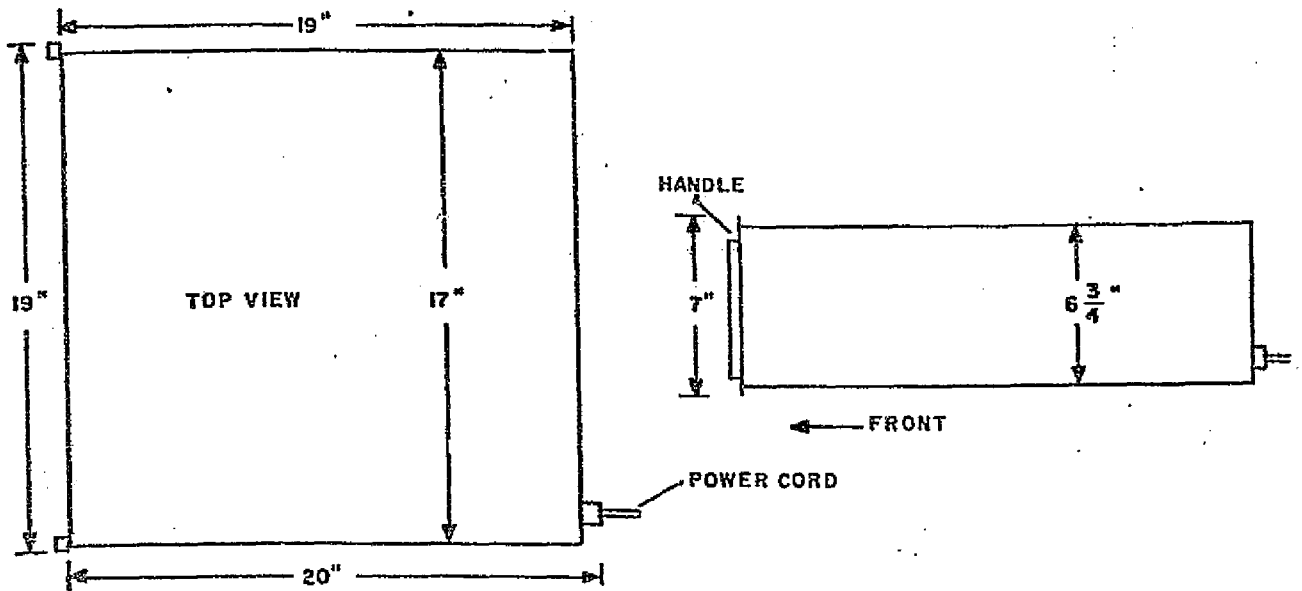

Figure 2-1. Installation Clearance
The CTE Splitter should be installed in a clean, dust-free area. An air-conditioned area with low humidity and moderate temperature is preferred. Refer to Figure 2-1 (Installation Clearance) for diagram.
2.1.2 Installation in Rack (Refer to Figures 2-1, 2-2)
Signal outputs and inputs are made through connectors located on the rear panel of the unit. Sufficient room should be allowed for external connections (refer to Figure 2-1 for installation clearances).